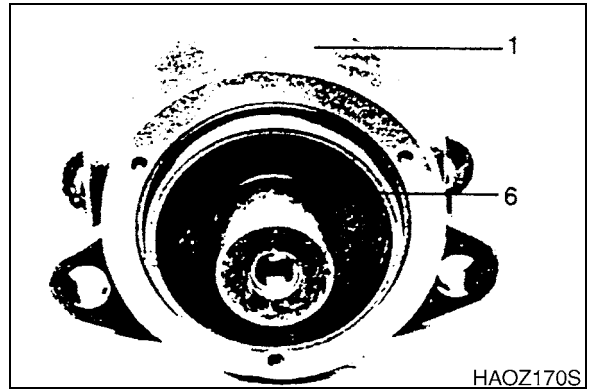

Figure 17
7. Insert disk spring stack (5, Figure 17) completely into piston (6). Do not change the disk springs within the stack.